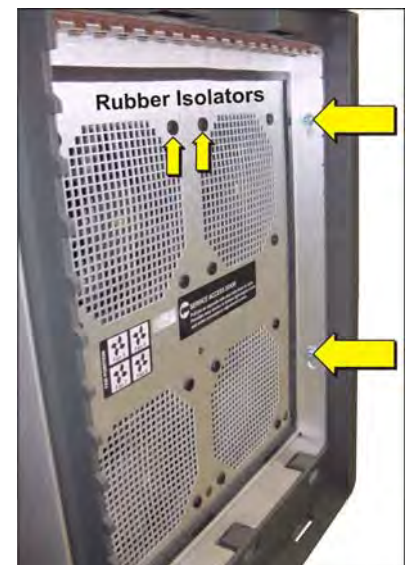

Figure 5-17 Remove Light Engine Fan Pack
6. Remove the two screws from the side of the fan pack. (**Figure 5-17**)
10. Replace the fan(s) required by removing the rubber isolators from each fan. (**Figure 5-17**)